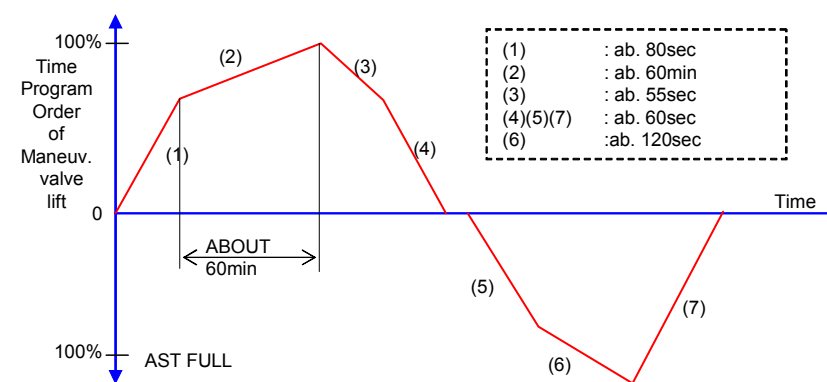

Figure 1-4 Time Program for Acceleration / Deceleration
During operation with the telegraph lever, except for the STOP operation, the remote control system controls the manoeuvring valve in accordance with the time program, as shown in Figure 1-4, and while the program is being implemented, IN PROGRESS is indicated in the W/H and the ECR, and the signal is outputted for monitoring in the IAS.
(4) Operation of the Telegraph Lever to the STOP Position
- a) When the telegraph lever is operated to the STOP position, the manoeuvring valve closes in accordance with the profile [(3) and (4) in the ahead operation, (7) in the astern operation] in Figure 1-4, and the propeller revolution decreases gradually.